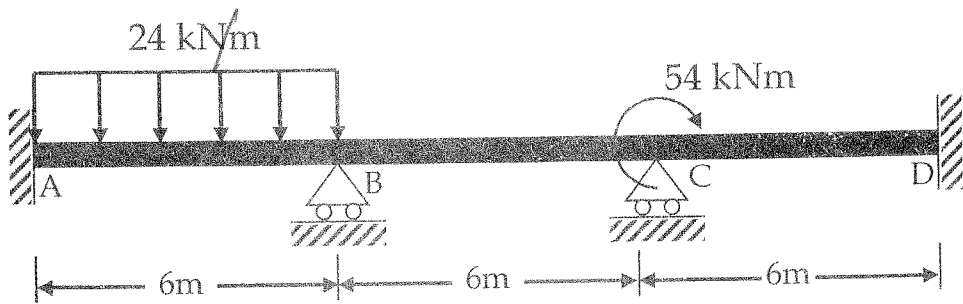

Fig. Q4
- Q4. A beam subjected to different loading is shown in Fig Q4 and is supposed to be analyzed using the finite element technique with three elements. Assume  $EI = 20 \times 10^6 \text{ Nm}^2$ , where E is Young's Modulus and I is the second moment of area of the beam.